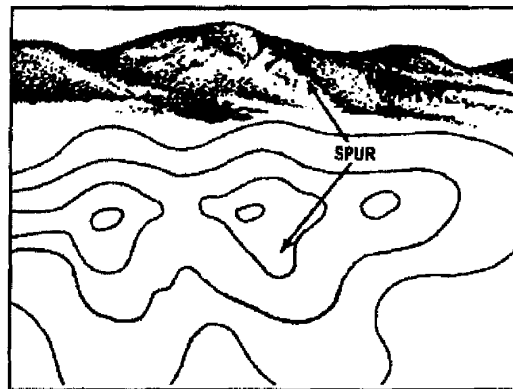

Figure C-3. Spur
1. Identify terrain features in table C-3 in the same manner on all maps, regardless of the contour interval, but you must realize that a hill in the Rocky Mountains will be much bigger than the one in south Florida. You must be able to recognize all the terrain features to locate a point on the ground or to navigate from one point to another (figures C-3 through C-10).